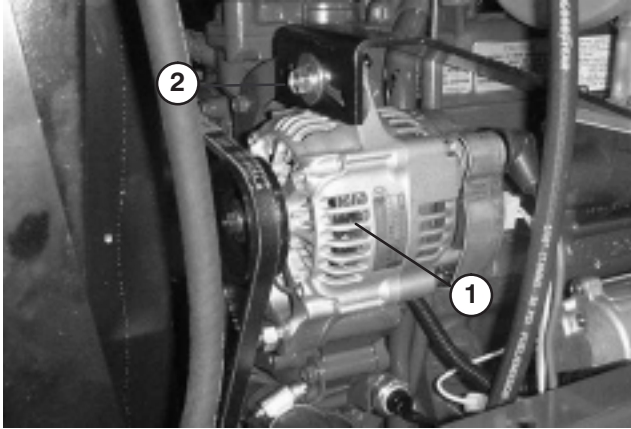

Figure 36
1. Condition and Tension – Check condition and tension of belts (Fig. 36) after every 100 operating hours.